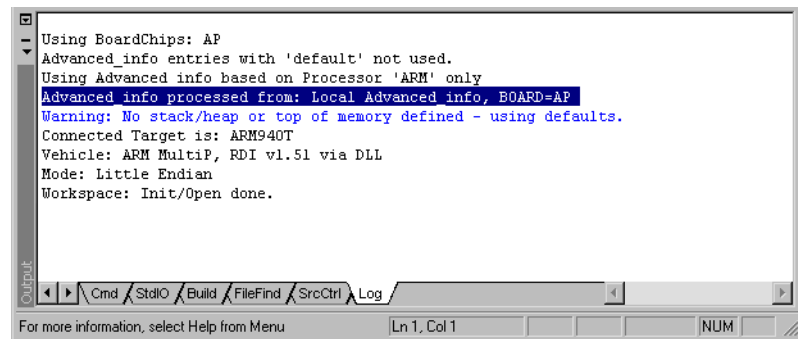

Figure 3-40 Output pane after configuration
6. Click on the **Log** tab in the Output pane, shown in Figure 3-40. This includes the line: